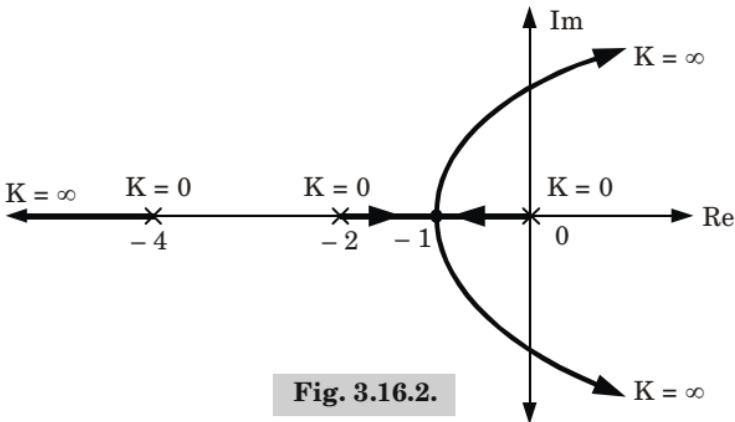

Fig. 3.16.2.
2. Now if pole at $s = -4$ added to $G(s)H(s)$ root locus becomes as shown in the Fig. 3.16.2.